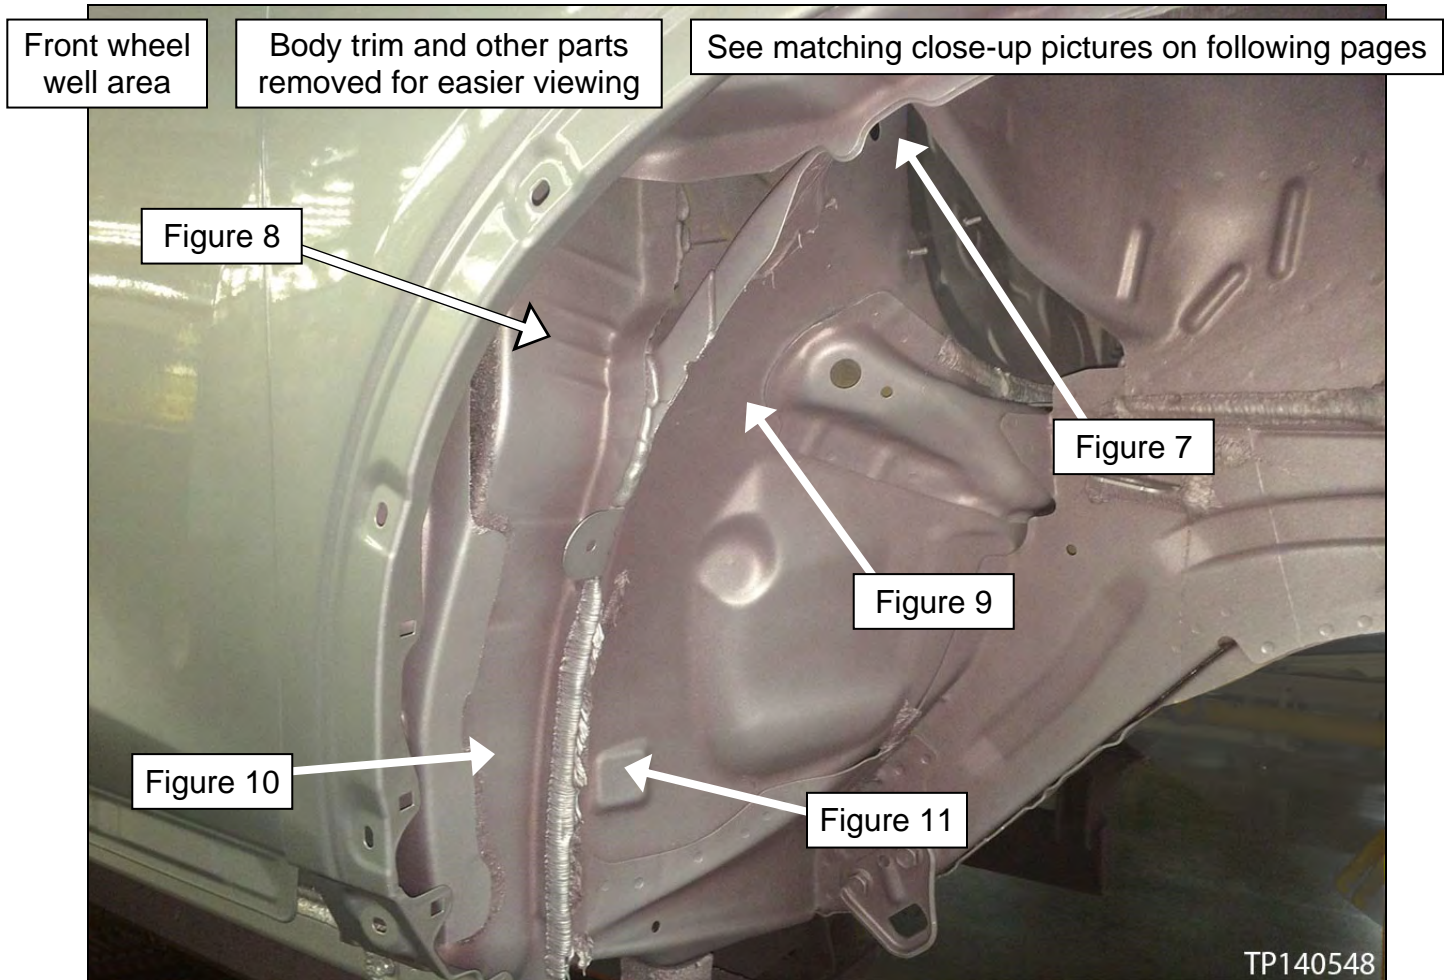

Figure 6: Body trim and other pieces removed for easier viewing
4. Inspect the areas shown in Figure 6 – 11 for body sealer or gaps in body sealer.